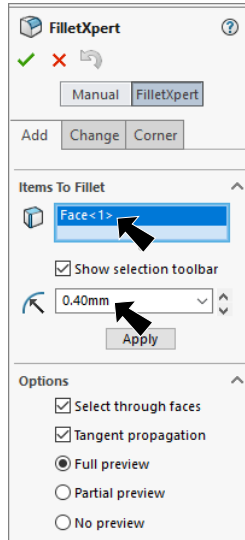

Fig. 5
Step 2. In the Fillet Property Manager: select **FilletXpert**, **Fig. 5**